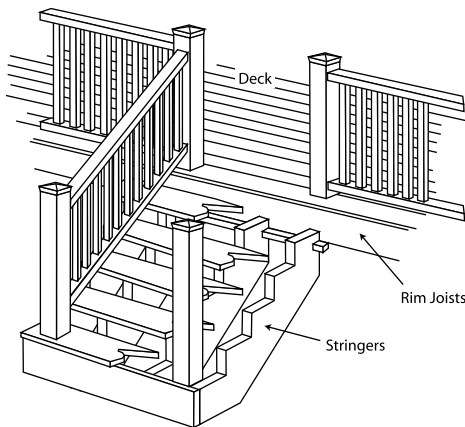

Figure 26
1. Position two line posts at top of stairway with the desired spacing and secure each post with the appropriate installation method (Fig. 26).